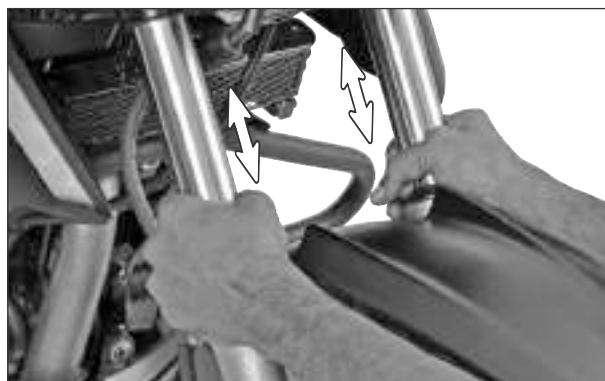

Fig. 2.76
- 1 Check to see that there is no play in the steering bearings. (Fig. 2.76)